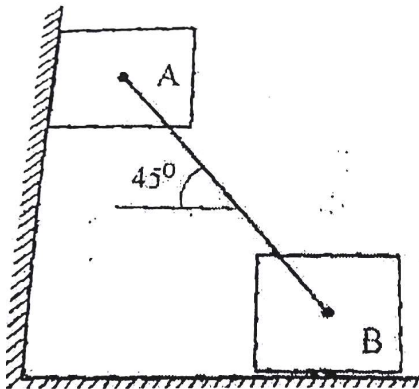

Figure 2.5
6. Two identical blocks A and B of weight W are supported by a rigid bar inclined at 45° with the horizontal as shown in Figure 2.5. If both the blocks are in limiting equilibrium, find the coefficient of friction between the block and the wall assuming it to be the same.